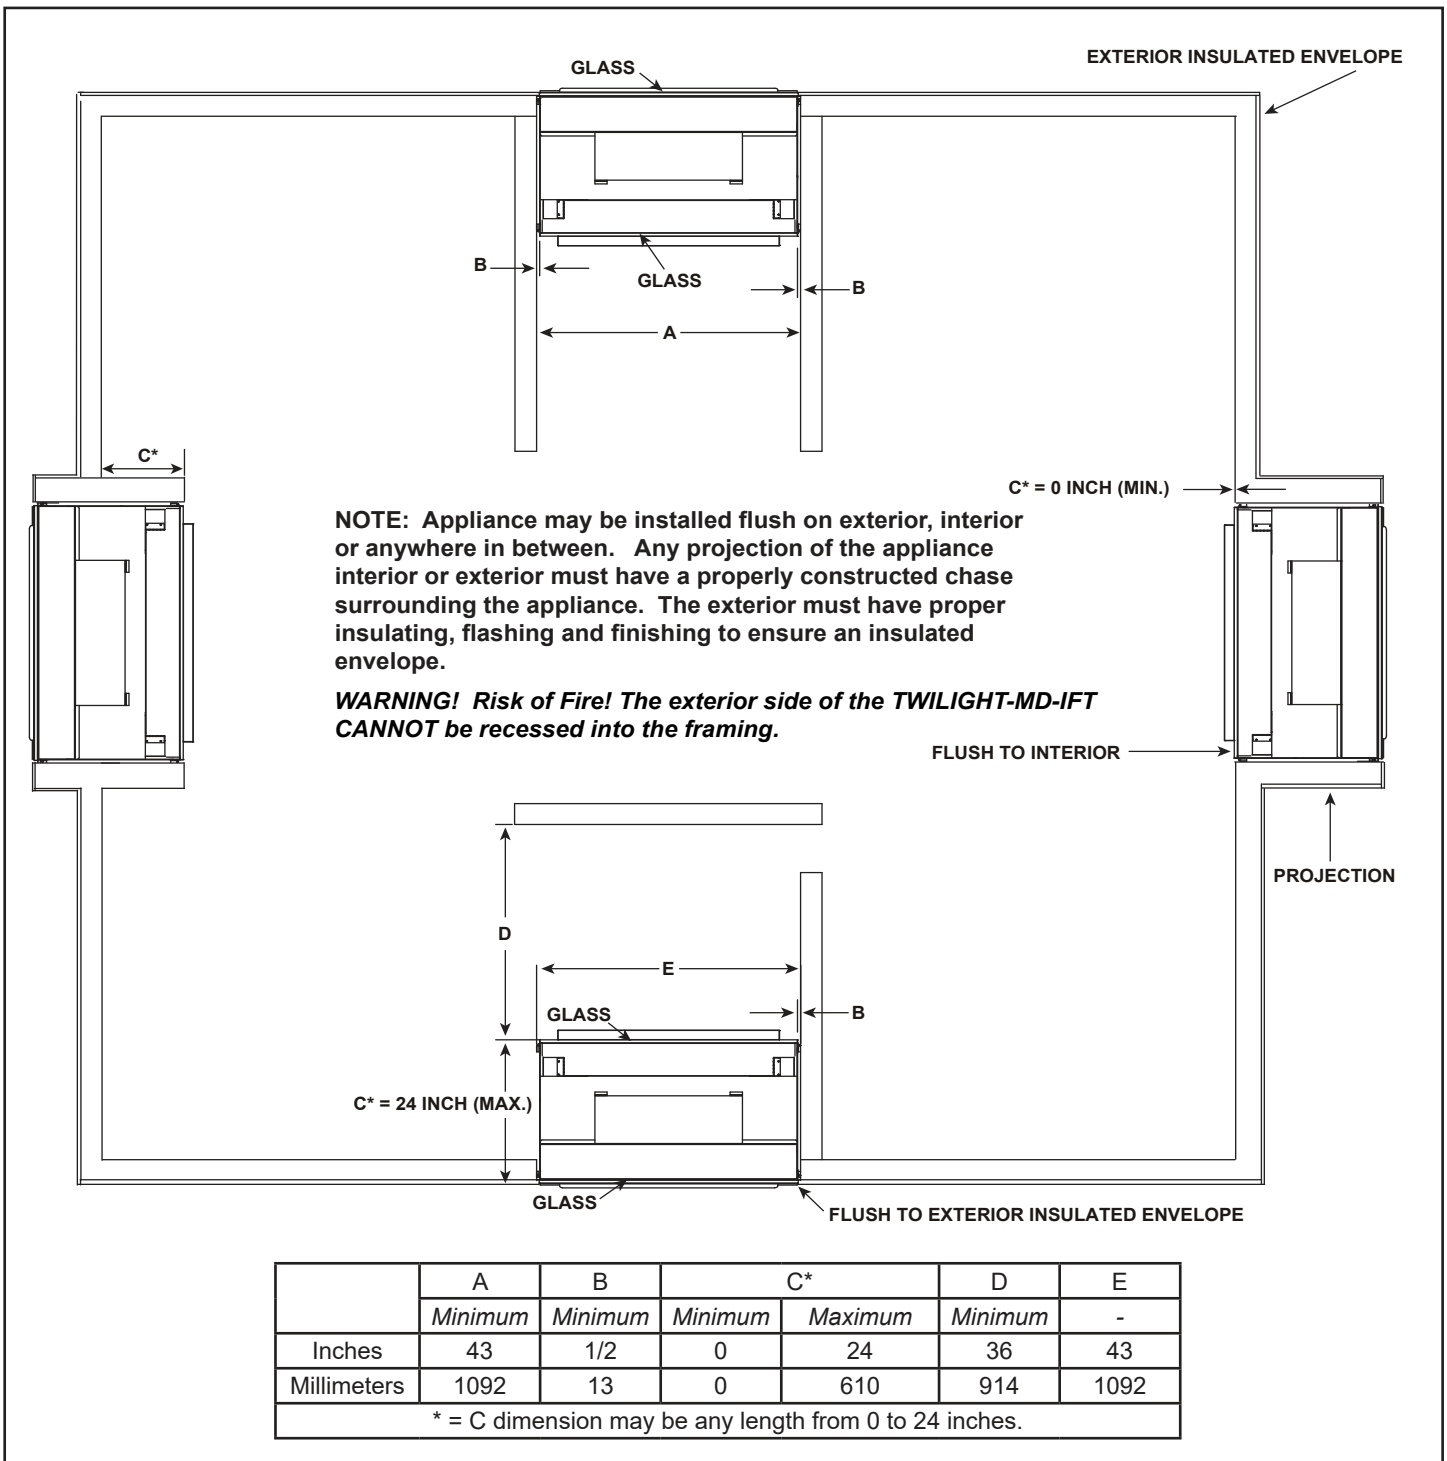
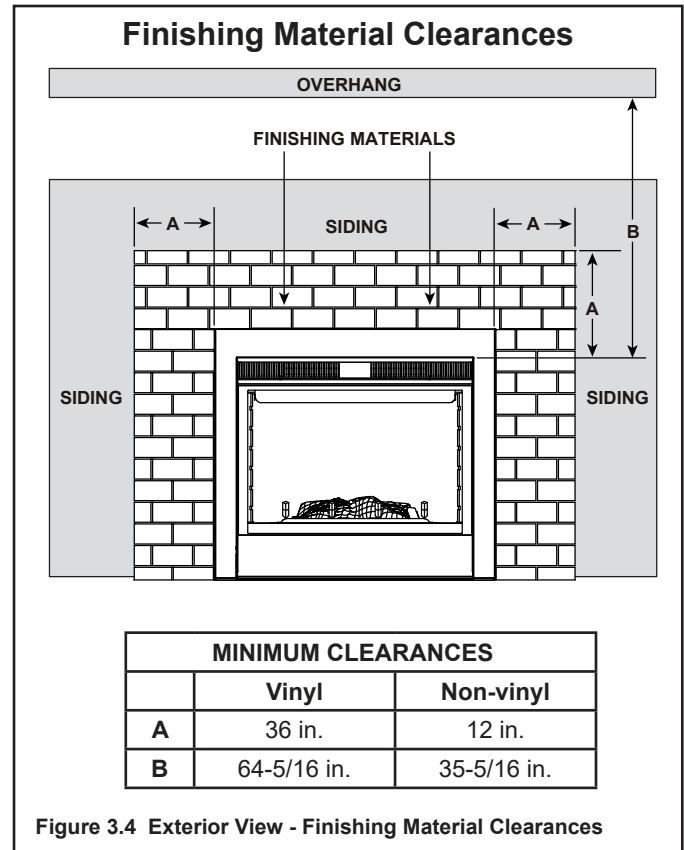

Figure 3.2 Appliance Locations
Figure 3.4 Exterior View - Finishing Material Clearances
When selecting a location for the appliance it is important to consider the required clearances to walls. See Figure 3.2.
- Reference Figure 3.2, Figure 3.3 and Figure 3.4 for clearance specifications.